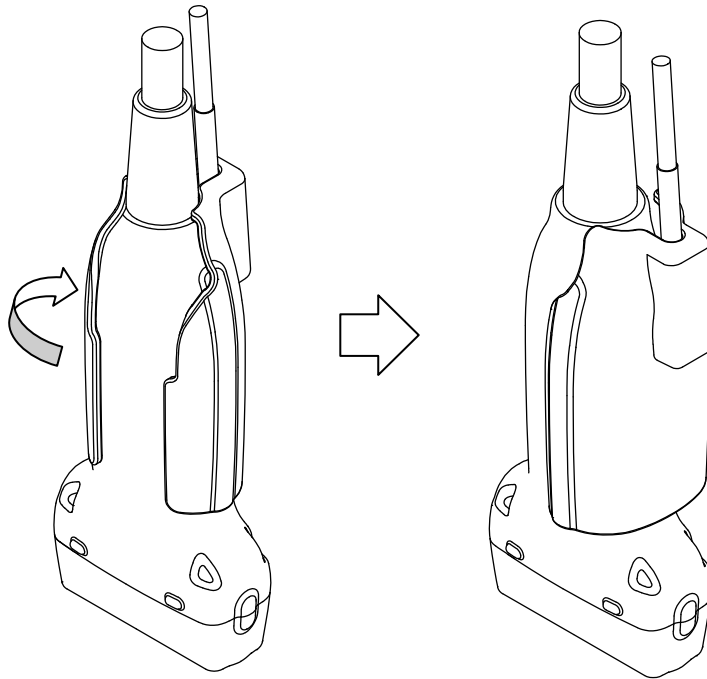

Fig. 11 How to release the Magnetic sensor attachment from the probe
- 1) Turn around the magnetic sensor attachment and release it from the probe as shown in Fig. 11.